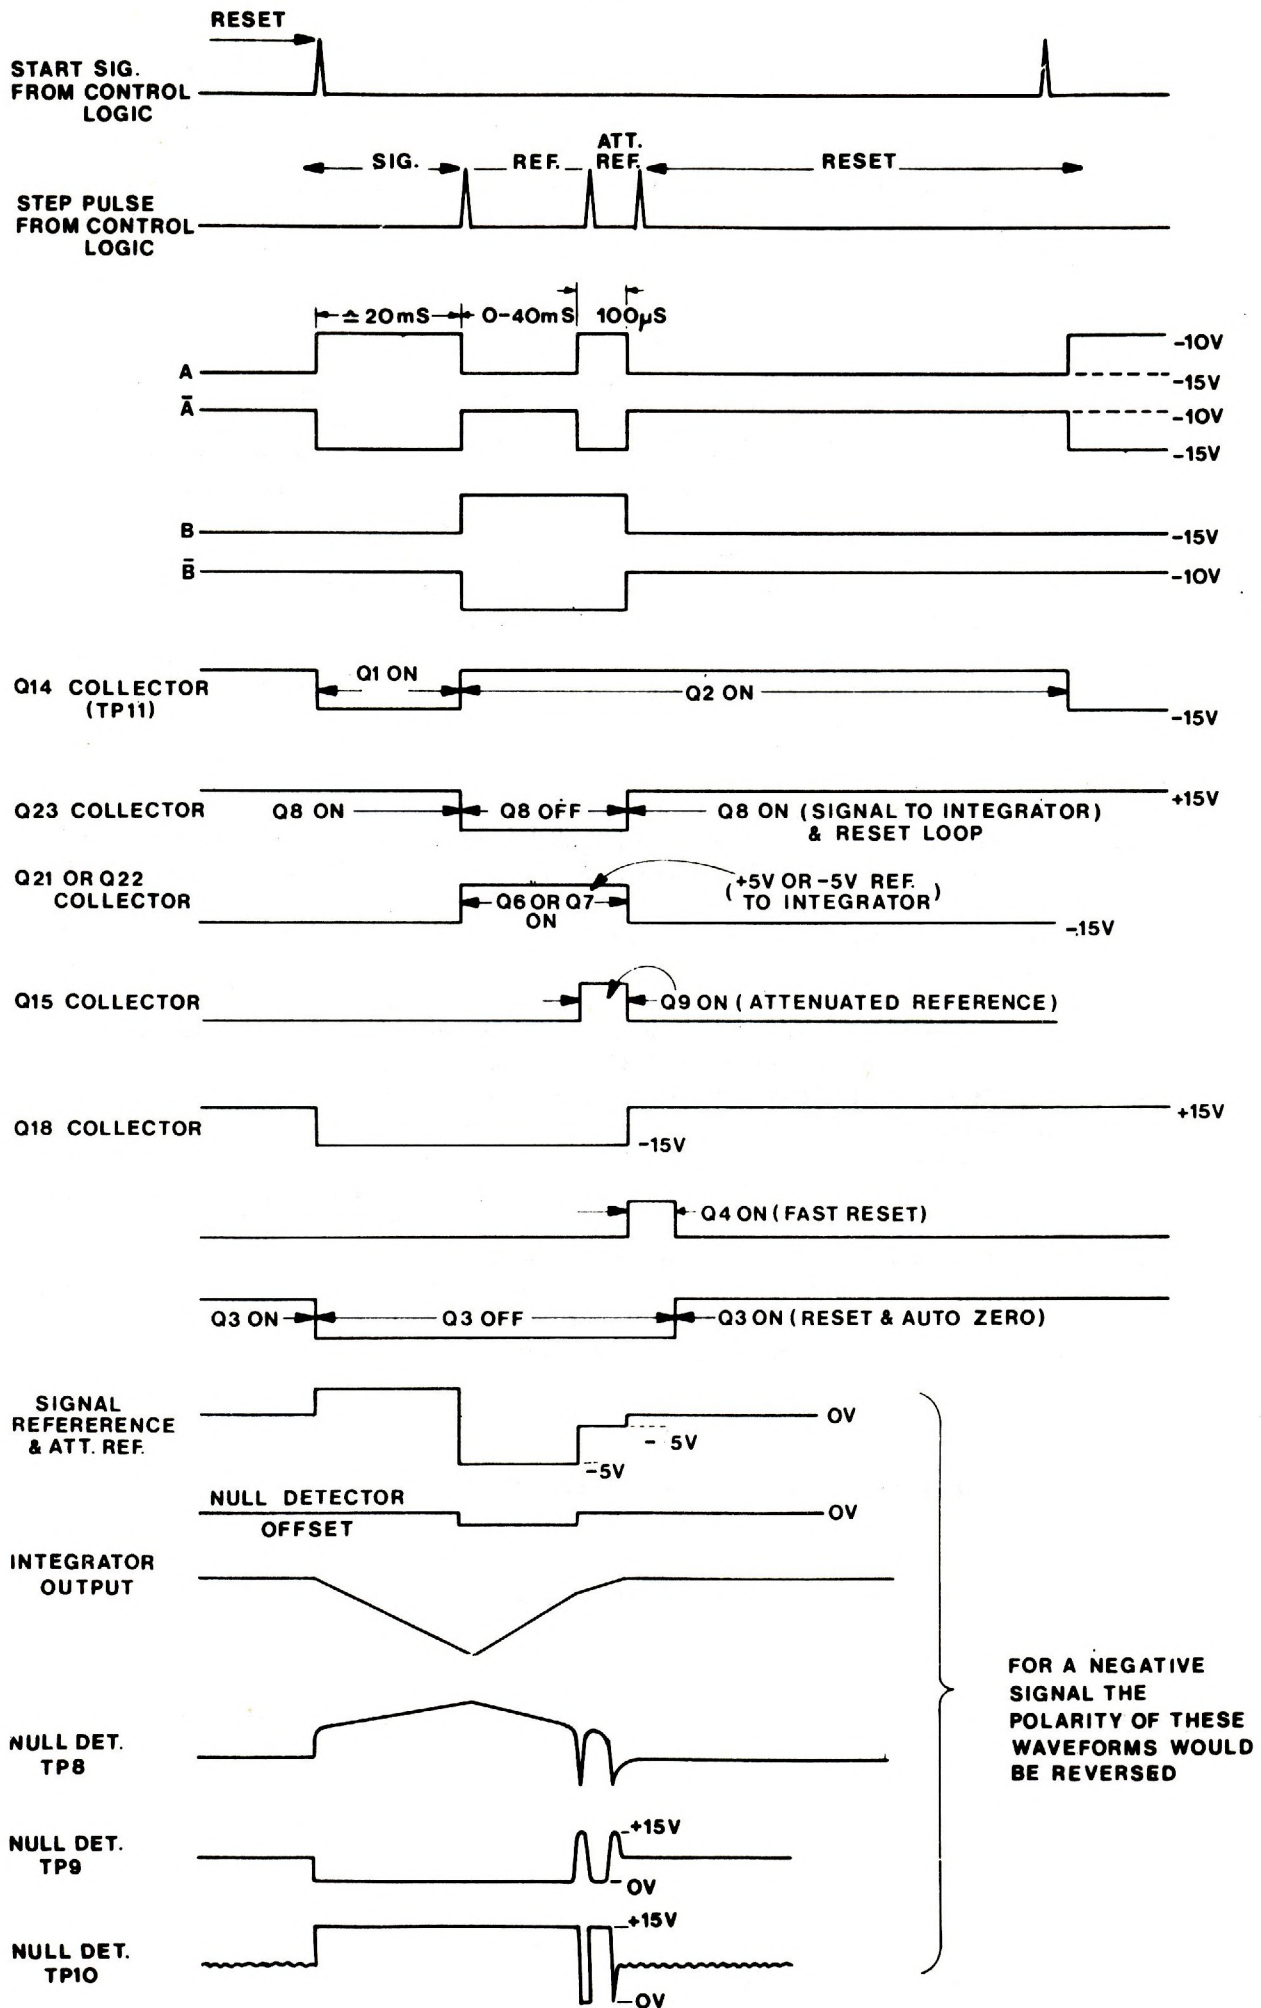

Fig. 1.22
Section 1.3 and Fig 1.3 in the Operating Manual gives a very basic description of the principles of integration involved. This paragraph covers in more detail those general principles. Fig 1.21 is a block diagram showing the essentials of the analogue section of the Analogue to Digital Converter. Fig 1.22 is a timing diagram which should be referred to in conjunction with Fig 1.21 for a full appreciation of the circuit operation.
Following the RESET period, a timing pulse arrives at T3 the SIG pulse transformer. This sets the binary counter, forcing A to a HIGH state (–10V) and ensuring that B is a Low state (–15V). The SIG pulse also appears at the clock input pin (11) of 'D' type flip-flop M45, the Q output (pin 13) thus adopts the signal at the D input (pin 9), –10V and therefore goes to a HIGH state. This switches ON Q14 which switches on F.E.T. Q1 and switches OFF F.E.T. Q2. Q1 connects the unknown signal to the X5 amplifier input. Q8 is already ON following the RESET period and X5 the input signal appears at TP5 and is fed to the integrator. If the signal at TP5 is positive then the output of the integrator at TP7 will move off negatively as shown in Fig. 1.22. Meanwhile, the voltage at TP7 is much amplified by the first stage of the null detector M37. This stage incorporates clamping diodes D18 and D19 so that although a large output swing occurs when the voltage at TP7 departs from zero by only a small amount, the voltage at TP8 is clamped, again as shown in Fig 1.22. Further null detector gain is introduced by M38 and through level shifting zener diode D23 to M42. At TP10, the null detector gain is such that the output is a logic level of either 0V for a negative signal or +15V for a positive signal as shown in Fig 1.22. The logic voltage at TP10 is level shifted by zener diode D25 to provide either –9V or –15V via R29 at the D input (pin 5) of the 'D' type flip-flop M45. With a positive input signal the voltage at pin 5 is HIGH (–9V).